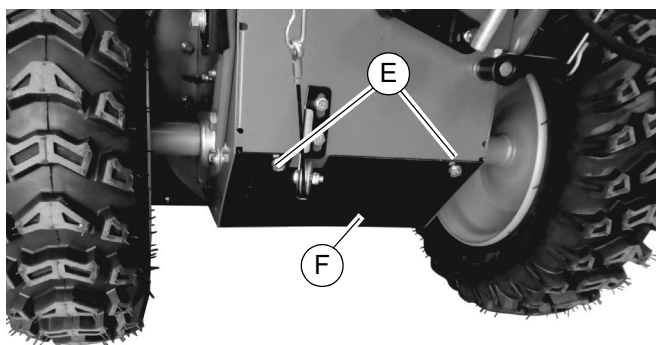

Figure 4-14. Transmission Cover Bolt Locations
3. See Figure 4-14. Remove the two bolts (E) securing transmission cover (F) using a 10mm wrench.